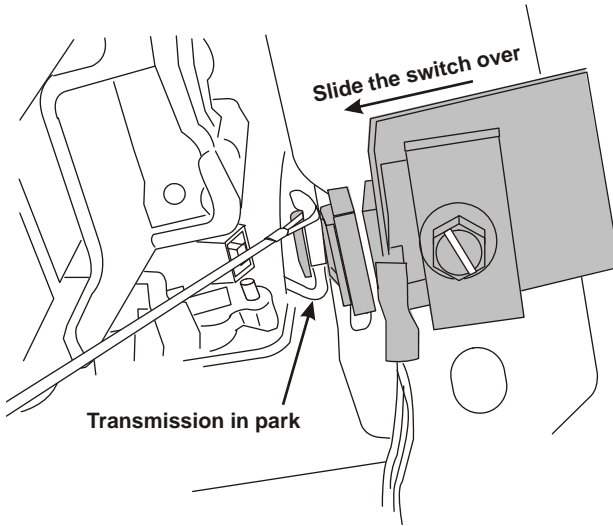

Figure 4.14
- Slide the switch to the magnet and align the two pieces. This alignment does not need to be perfect and the magnet and switch should not quite touch (Figure 4.14). Tighten the screw with a screwdriver.